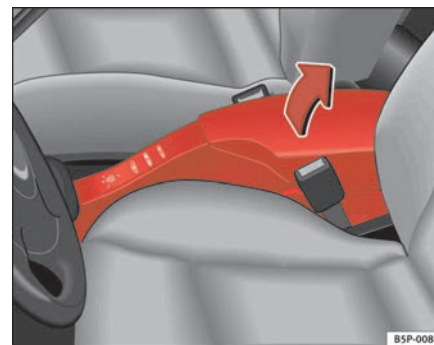

Fig. 101 Front armrest with stowage area
- To open the stowage area, lift the armrest up in the direction of the arrow ⇒ fig. 101 and then lift the cover.